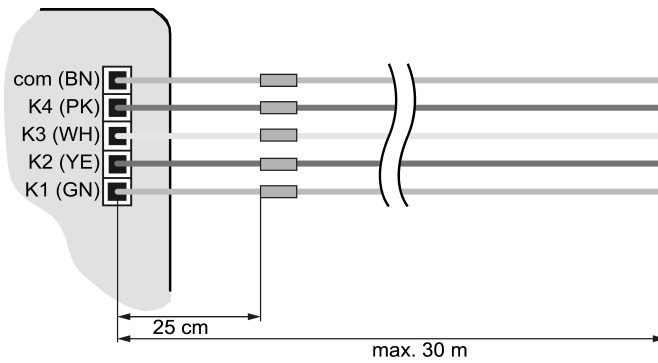

Figure 2: Maximum cable length
- i** For the extension of the enclosed cable set (see figure 2), observe the maximum cable length (see chapter "Technical data" ▶ Page 10). The following applies: the com cable for each cable set may not have a total length beyond 30 m in length.